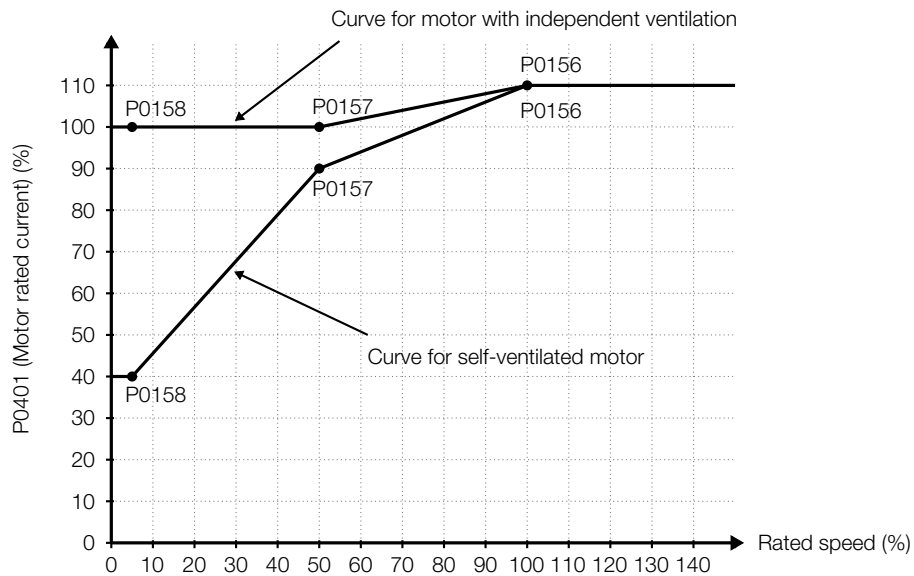

Figure 5.19: Overload protection levels
- Parameters P0156, P0157 and P0158 are the three points used to form the motor overload curve, as shown in Figure 5.19 on page 5-25 for the factory setting. Refer to Item 6.3.2 Initial Power-up \(Parameter Setting\) on page 6-13 of the user's manual.